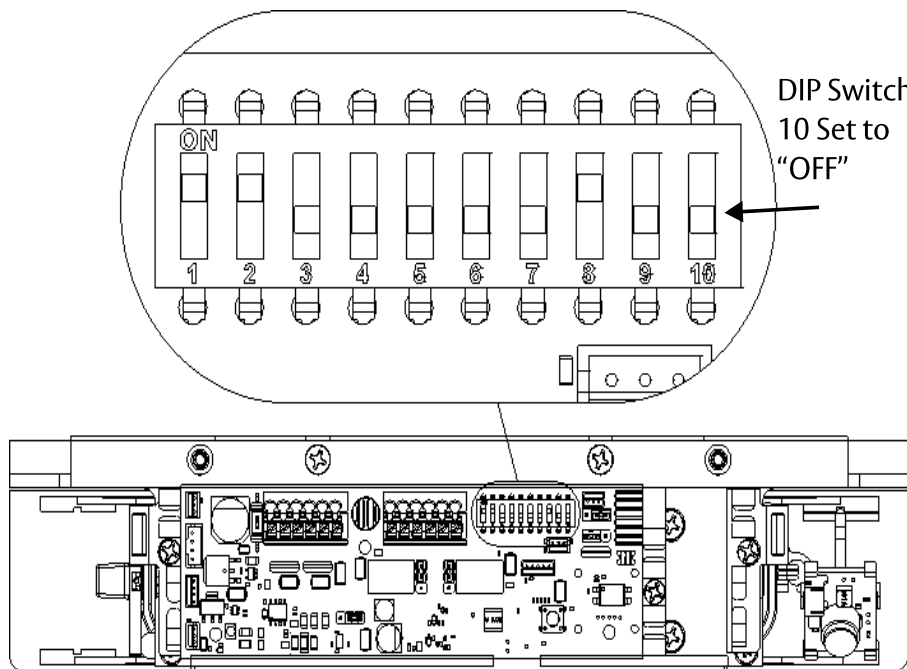

Figure 46. Setting Dip Switch 10 to OFF
6. SET Dip Switch 10 to "OFF" (see Figure 46, "Setting Dip Switch 10 to OFF").